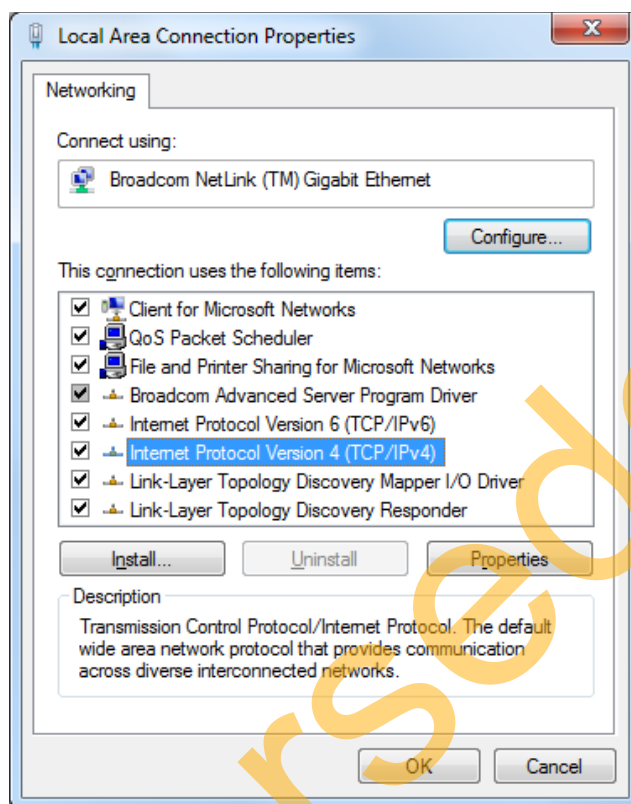
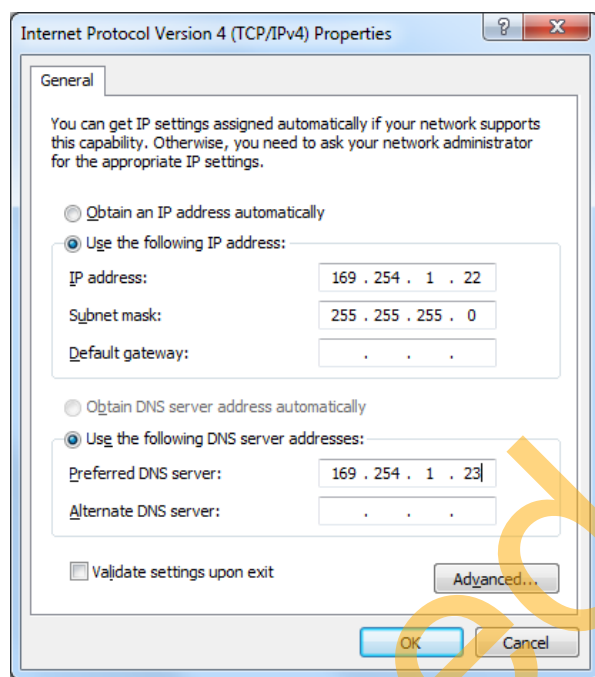

Figure 22 • Host PC TCP/IP Settings
Figure 23 • Static IP Address Settings
3. If the device is connected in Static IP mode, the board static IP address is 169.254.1.23, then change the **Host TCP/IP** settings to reflect the IP address. Refer to Figure 22 and Figure 23 on page 27.